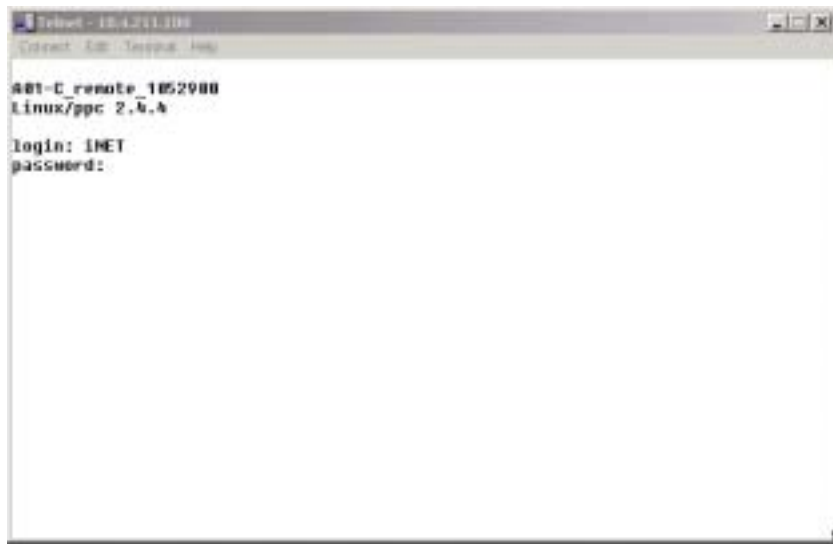

Figure 25. Telnet Login Screen
- b. Select **Tools>>Telnet** to bring up the Telnet login screen as shown in Figure 25.